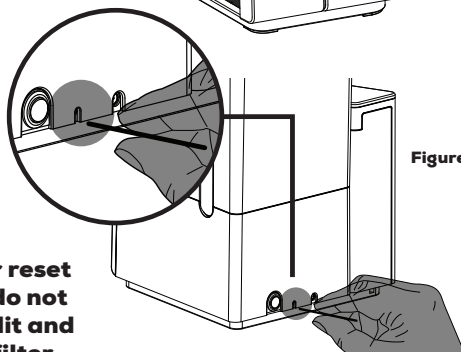

Figure 2
6. Press the **Filter Reset Button** located on the back of the AquaTru unit (Figure 2). Press and hold it for at least **5 seconds**, or until the filter light turns off.